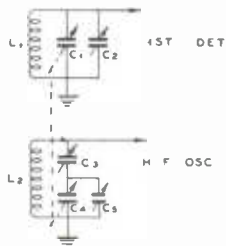

FIG. 3
The technique of lining-up the first detector and RF stages, if any, is precisely the same as that described in aligning a tuned RF receiver. However, the line-up with the RF oscillator is slightly modified. **METHOD:** The HF oscillator is used to provide a signal in the first detector which will beat with the desired signal to form a new signal at the frequency to which the IF amplifier is tuned. If this is 450 KC, the HF oscillator should tune to 450 KC higher frequency than that of the first detector and RF stage. Figure 3 illustrates this circuit. In general, coil  $L_2$  must have less inductance than  $L_1$ , and  $C_1$  must have less tuning range than  $C_2$ . These requirements necessitate that  $L_2$  have less turns than  $L_1$ , and less capacity in  $C_4$  than in  $C_1$ . If  $C_1$  and  $C_2$  are of the same capacity and are coupled in tandem, a fixed or variable condenser  $C_3$  is placed in series with  $C_4$  to reduce its maximum capacity.  $C_2$  and  $C_6$  may be either trimmer or band-setting condensers.  $C_3$  is required at longer wavelengths where the ratio of the oscillator to detector frequency is not approaching unity of equality. For example: at 14,000 KC with the oscillator at 14,450 KC no series condenser is necessary, but one would be required at frequencies of 2,000 KC and 2,450 KC if the tuning condensers  $C_1$  and  $C_4$  were very large.
**Alignment Procedure:** Actual alignment of the front end of a "superhet," such as shown in Figure 3, follows: The test oscillator is set at the highest frequency which can be tuned-in with a given set of coils.
This may require a little manipulation, but if the tuning range is known or can be estimated, an approximate frequency setting of the test oscillator can be made. The test signal is increased in value until it is heard or can be measured at the output of the receiver.  $C_2$  is then adjusted to bring the dial reading to the desired point for a given frequency, that is, providing the dial is calibrated.  $C_1$  and  $C_4$ , of course, being tuned simultaneously; afterwards,  $C_2$  is adjusted for maximum sensitivity. Next, the tuning dial is rotated through to nearly full capacity setting of  $C_1$  and  $C_4$ , of Figure 3, and the oscillator set for this lower frequency. These circuits can be aligned by moving the tuning dial while adjusting  $C_3$  with a screwdriver or plate bending of  $C_1$ . A middle dial setting can be checked by means of a third setting of the test oscillator and plate bending of  $C_1$ . If alignment cannot be obtained by plate bending adjustments, a new value of trimmer condenser settings of  $C_3$  and  $C_2$  will have to be used and the whole procedure repeated. Sometimes  $L_2$  has to have considerably less turns than  $L_1$ , and a few turns added or subtracted to allow the HF oscillator to tune through the whole range at precisely 450 KC higher in frequency than the detector and RF stages.